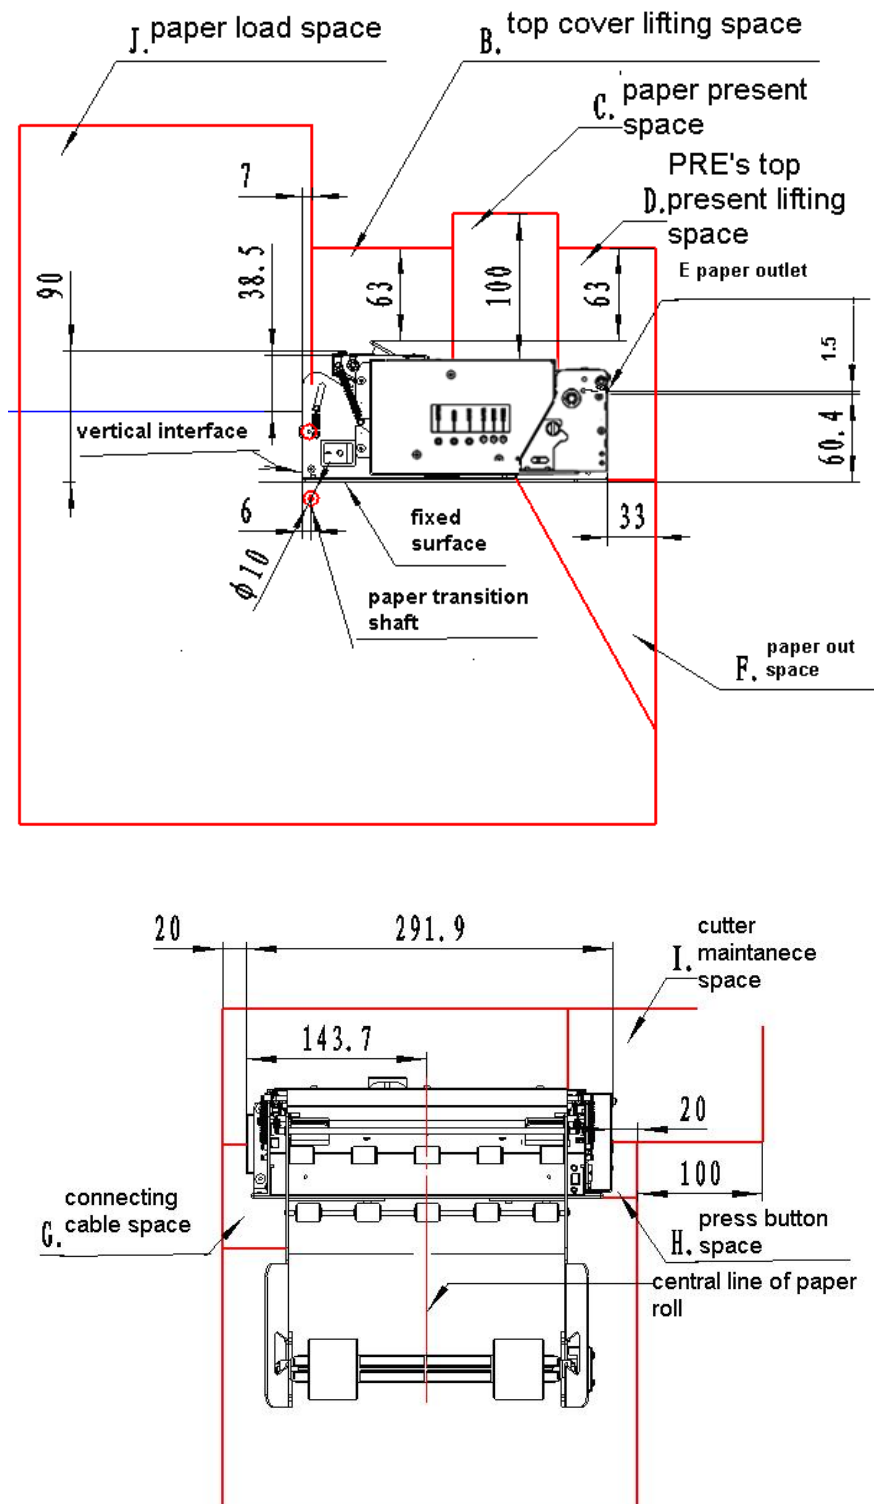

Figure 4.7.1 Vertical structure
- while operating and doing routine maintenance, we suggest reserving the space as follows (figure 4.7.1, 4.7.2, 4.7.3) in order to guarantee printer working reliability and easy operation efficiently.